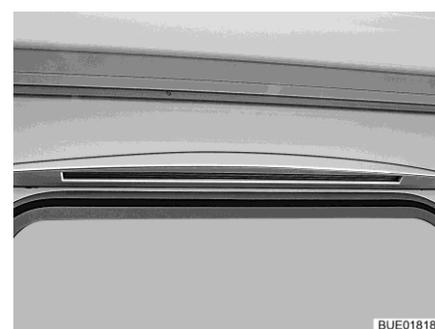

Fig. 66 Awning tent light (not when
- Awning tent lighting (Fig. 66) (partially optional equipment) (not when equipped with awning)